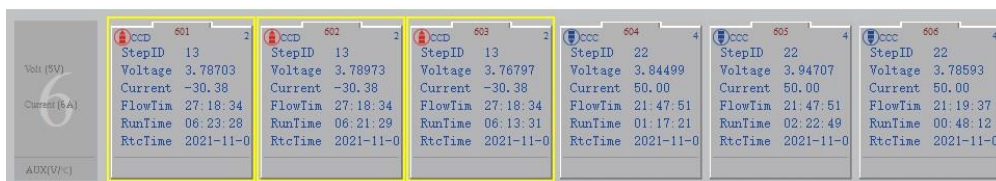

Figure 4-19 Select the channels
1. Click the channel to select the battery. If the yellow border is displayed, the channel is selected, as shown in Figure 4-19.